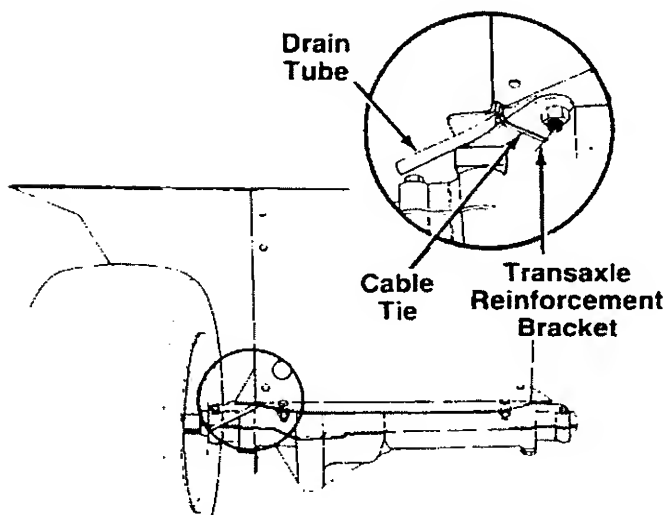

FIGURE 4.
5. Secure the battery drain tube to the transaxle support bracket, using the cable tie as shown in figure 4. Be certain drain tube is routed away from the wheel rim. Trim excess end of cable tie.